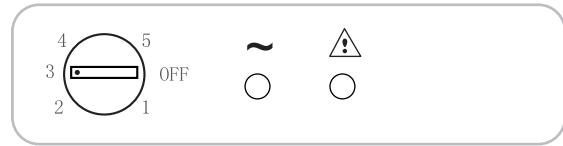

Fig. 3
1) Rotate the knob to the „0“ position (Fig .3)